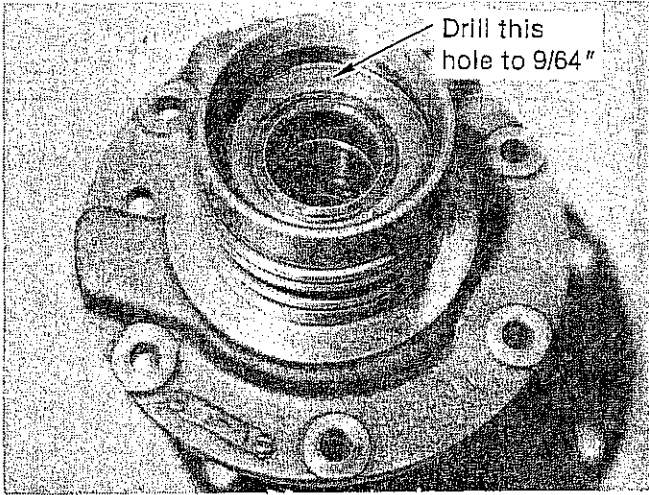

FIGURE 46
**STEP 4. TRACK ONLY.** Drill out the hole at the rear of the reaction shaft support to 9/64". (See Fig. 46) Clean the support in solvent to remove any metal chips.
shaft support to 9/64". (See Fig. 46) Clean the support in solvent to remove any metal chips.